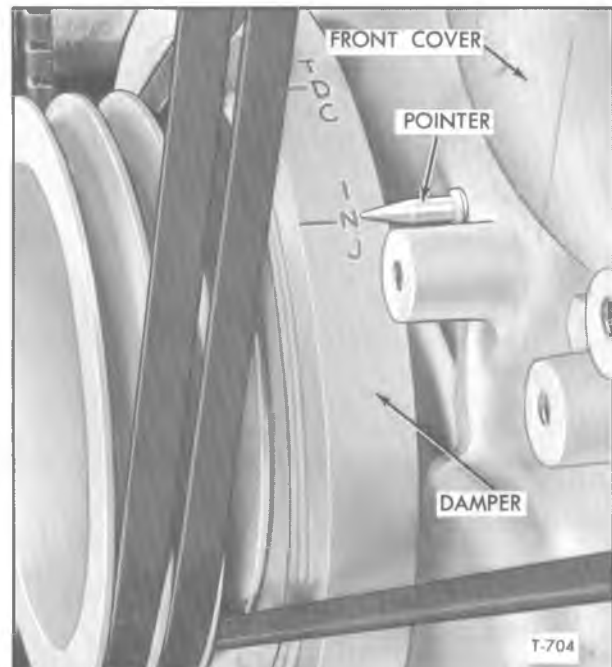

Figure 11—Timing Marks at Crankshaft Damper
mark on crankshaft damper is aligned with pointer in engine front cover (fig. 11). At this point pump should be injecting fuel into No. 1 cylinder, which will be the case if alignment marks are aligned as explained in following Step 4.
5. If the mark on pump drive hub is not indexed with pointer, or if the mark on face gear is not visible in opening, the injection timing is not correct. Before proceeding to reset the injection timing be sure No. 1 piston is on compression stroke and "INJ" mark on damper is aligned with pointer (fig. 11).